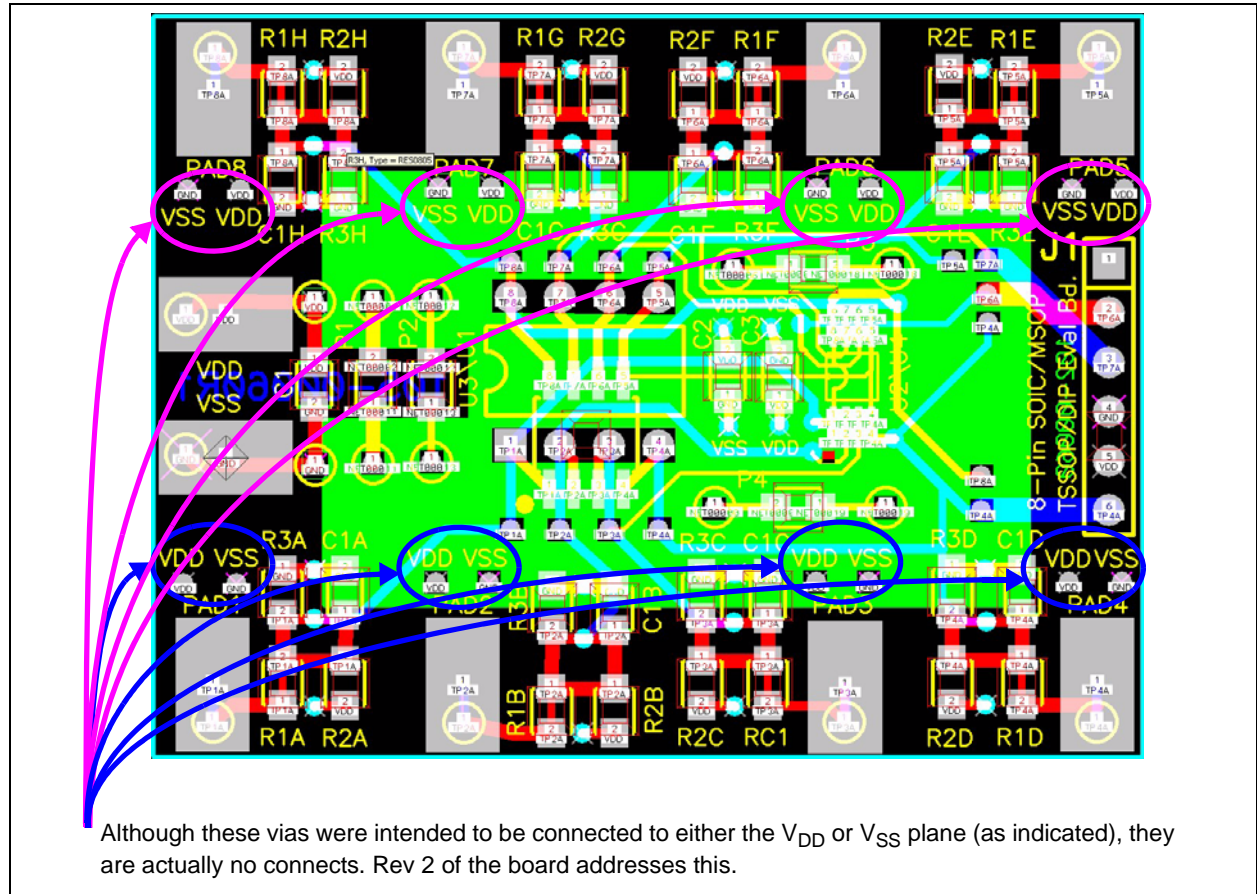
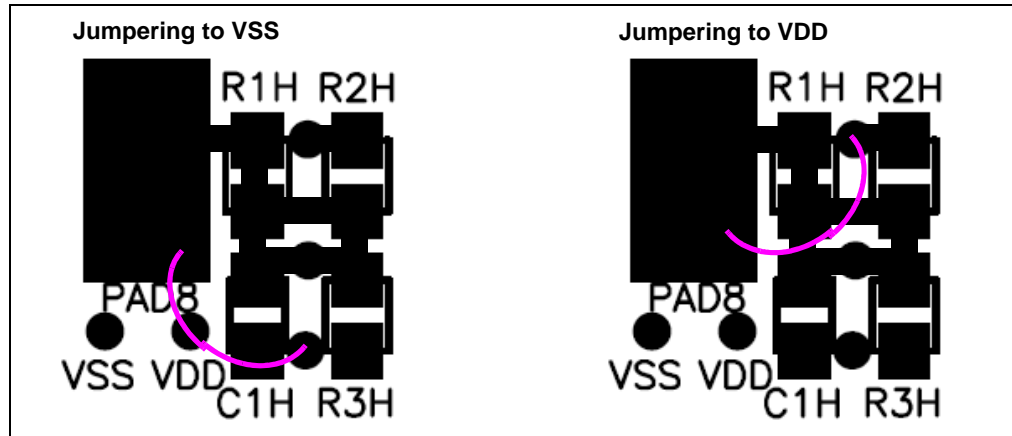

FIGURE D-1: 8-Pin SOIC/MSOP/TSSOP/DIP Evaluation Board Gerber - Top Layer + Silk-Screen.
FIGURE D-3: Alternate Jumpering the PCB pad to either VSS or VDD.
1. VDD and VSS vias near each pad are No Connects (they should have been connected to the appropriate power or ground plane). See Figure D-1 shows the location of these vias that are No Connects. Figure D-3 shows alternate connections that can be made.
Figure D-3 shows how the pad can be connected to either the V_{DD} or V_{SS} plane of the PCB.